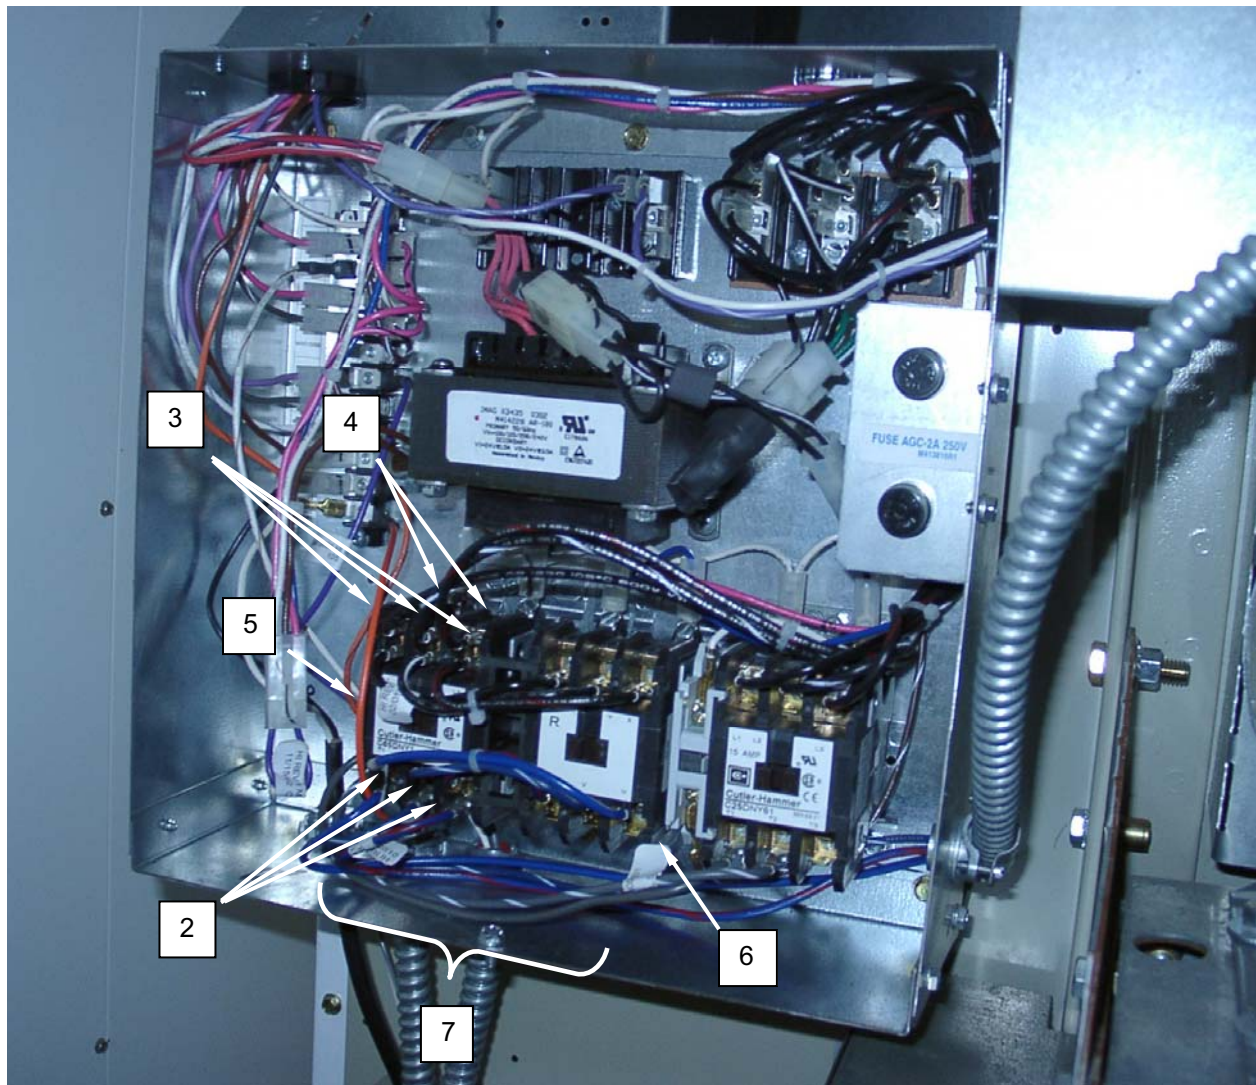

Figure 2. Test the Reversing Contactor.
5. Check for 210 VAC across primary terminals L1, L2, and L3 (**Figure 2, Item 2**) on either the forward or reverse contactor. If no voltage is present, refer to WP 0010 for dryer Troubleshooting procedures.
6. Use a voltmeter to check for 210 VAC across secondary terminals T1, T2, and T3 (**Figure 2, Item 3**) on either the forward or reverse contactor.
9. Disconnect the white and red wires (**Figure 2, Item 4**) from the contactor control circuit, and use an ohmmeter to test for 3 to 5 ohms across the two terminals. Replace an open contactor.
10. Reconnect the white and red wires (**Figure 2, Item 4**) to the contactor control circuit terminals.